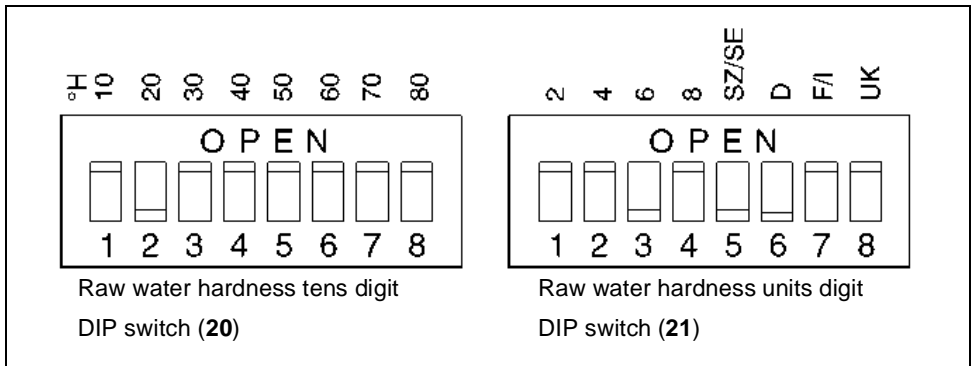

Fig. 11: DIP switch
The unit digit of the raw water hardness is set using the DIP switch (21), contacts 1 to 4 (see Fig. 11).
Push contact 2 of the DIP switch (20) and contact 3 of the DIP switch (21) downwards (see Fig. 11).